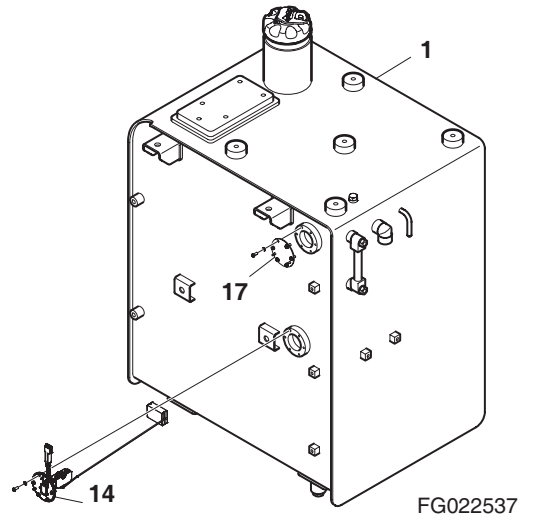

Figure 12
20. Tag and disconnect wires leading to fuel sensor (14) and fuel float switch (17, Figure 12) on side of fuel tank (1).